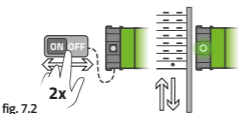

fig. 7.2
5. Switch on and off the **mob.iq [M35 EZRS]** motor's power supply twice - fig. 7.2 – the tubular motor will make some short UP/DOWN moves and the diode will light up with the green light.